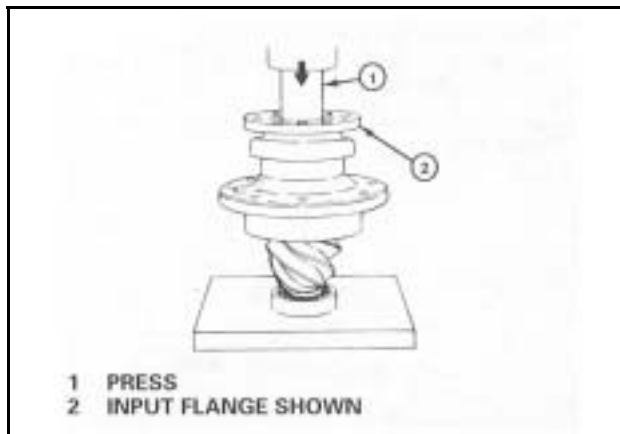

Figure 65
*Use a press to install the yoke or flange. **Figure 65.***